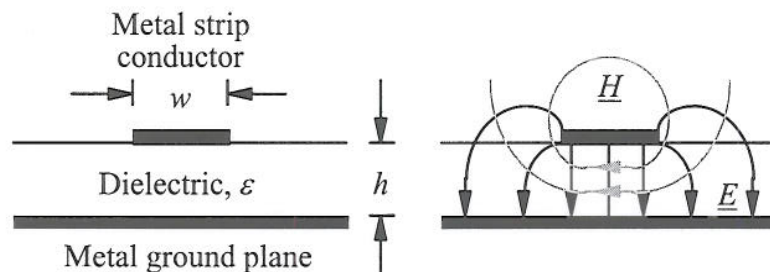

Figure 6
- d) Figure 6 shows a cross-section of a stripline waveguide. Making suitable approximations, derive an analytic expression for its characteristic impedance. [5]